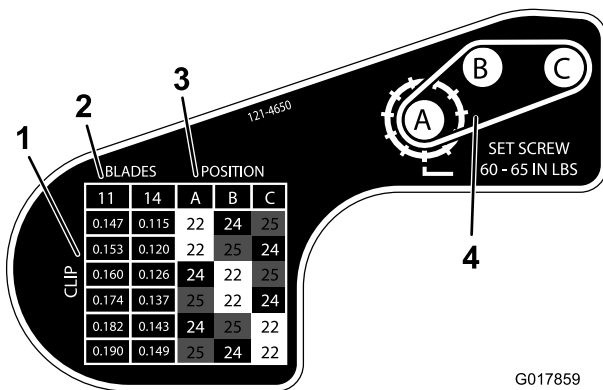

Figure 17
6. Using the chart shown on the decal in Figure 17, determine the clip setting you want and which pulleys you will need to move.
9. Install each pulley in the new configuration as indicated on the decal (Figure 17).